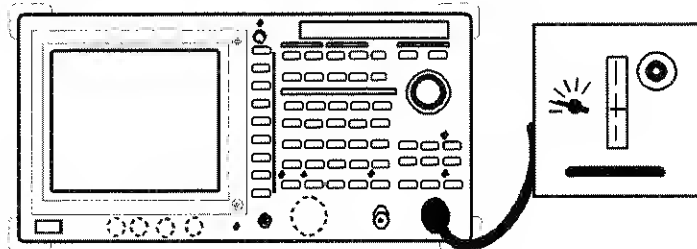

Figure 2-135 Setup for Measuring FM Signal
1. Connect the unit under test as shown in Figure 2-135.